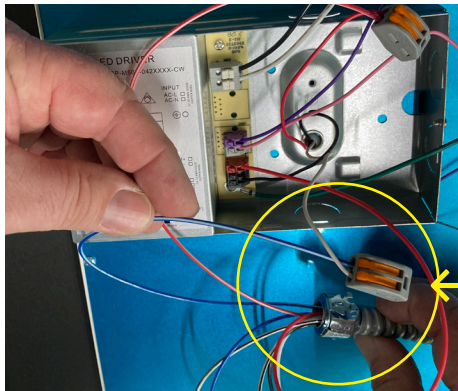

Figure 5
- Step 5. Connect White wire from Step 4 (power supply) to Blue/White wire of Battery Backup (Figure 5)